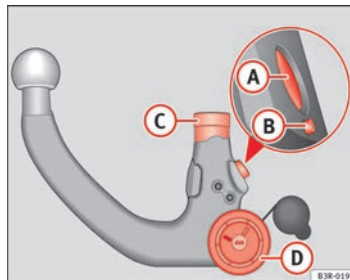

Fig. 167 Removable towing bracket: Ball joint
- Check the locking pin ①, release pin ②, shaft section ③ and knob ④ ⇒ Fig. 167 on the ball joint to make sure they are clean and undamaged. ▶